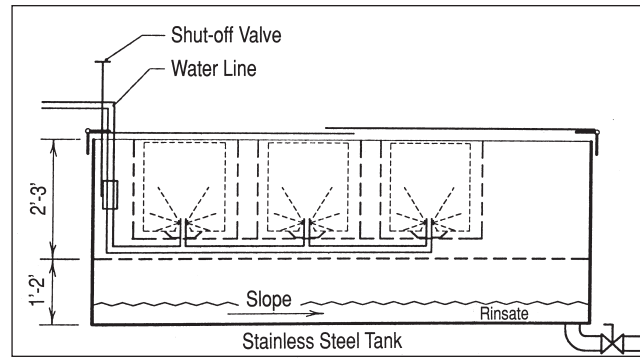

Figure 5. Pesticide rinsate drain tank with pressure rinsing.
3. Drain the container with a suction probe and invert container over a drain rack with built-in pressure rinse nozzles on the rinsate catch tank or batch mixing tank. Special drain racks and rinsate drain containers are designed for setting container outlets or pour spouts over built-in vertical pressure rinse nozzles to drain and rinse large containers (Figure 5).